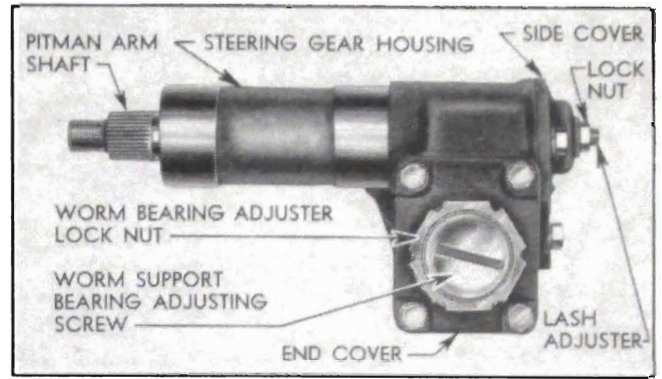

Fig. 9-3. Steering Gear Adjustment
- (a) Tighten four hex. head screws that hold end cover to housing. See Fig. 9-3.
- (c) Loosen lash adjuster **lock nut**. See Figs. 9-3 and 9-6.